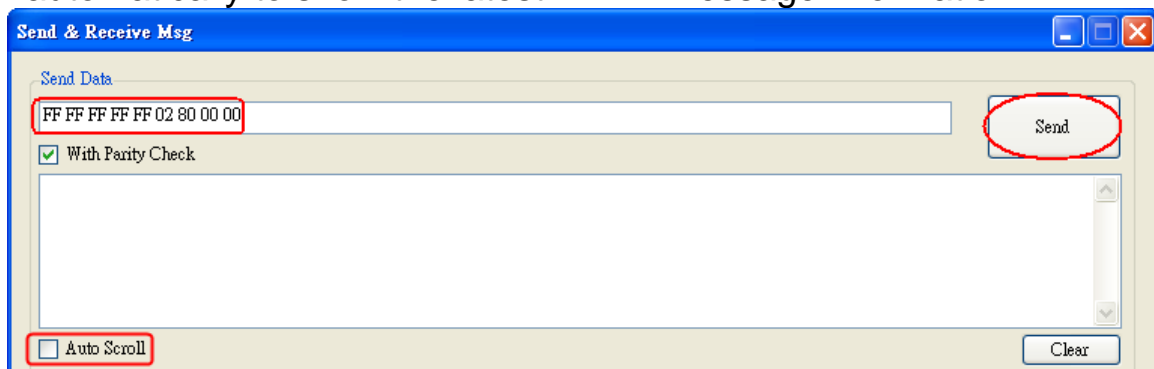

Figure 4-11: Send HART Command
- (2) Please type the HART command in the “Send Data” field and click “Send” button to send out the HART command like Figure 4-11.